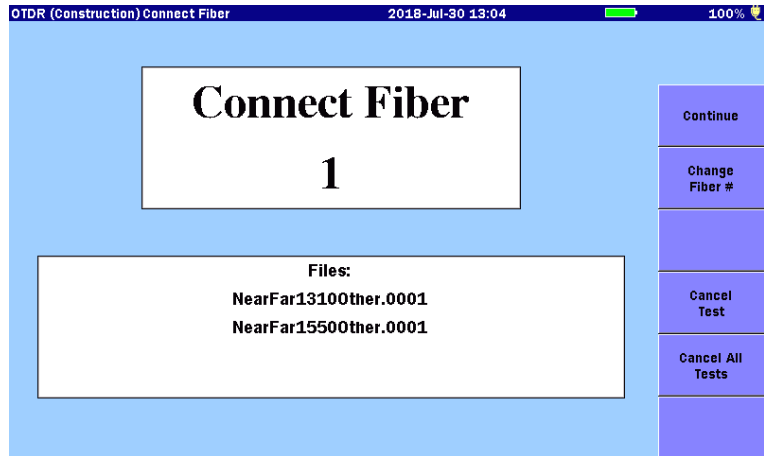

Figure 6.4-1 Connect Fiber Screen
The ACCESS Master starts testing the fiber when touching **Continue** on the Connect Fiber Screen (Figure 6.4-1).
6. Touch **Continue**. The Connect Fiber Screen (Figure 6.4-1) is displayed.